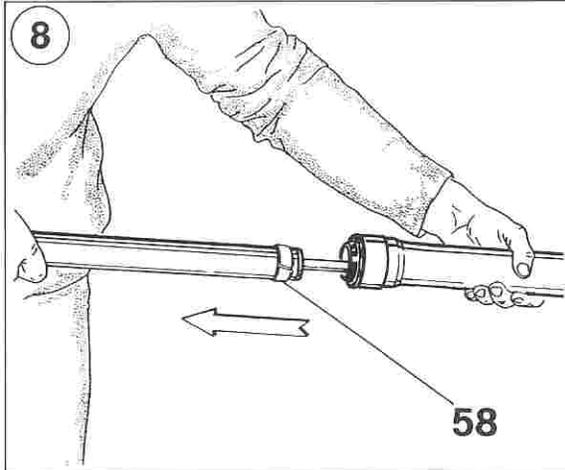

**Fig.148**
- 1) If the oil has to be changed on an assembled fork, loosen the screw with O-Ring (26) and drain all the oil contained into the fork by pushing on the handlebar until the oil comes out. Tighten the O-ring screw.
- 2) Unscrew the upper screw with O-ring (161) by holding the adjustment knob (162) by the hand. Slide this knob and the number plate (147) up off the fork leg top.
- 3) By means of a 22 mm. barrel wrench, unscrew the upper adjustment lock nut (146). Remove it from the adjustment unit.
- 5) Con una chiave esagonale di 36 mm svitare il tappo (17) di chiusura superiore. Rimuovere detto tappo e l'attrezzo sopraccitato dal tubo portante. Fare attenzione a non rovinare l'anello OR (04) nell'estrazione.
- 6) Sfilare dall'interno del tubo portante il tubetto di precarica (28), la molla (18) e lo scodellino guidamolla.
- 7) Portare i portasteli a fondo corsa e immettere olio (SAE 10) fino a raggiungere un volume d'aria di 170 mm (vedi sezione a fig.148).
- 5) By means of a 36 mm. wrench, unscrew the upper plug (17). Remove this plug and this tool from the stanchion tube. Pay attention not to damage the O-ring (04) when taking them out.
- 6) Slide out the pre-load tube (28), the spring (18) and the spring guide cap from inside the support pipe.
- 7) Make the sliders reach their end of stroke and pour oil (SAE 10) until a 170 mm air volume is reached (see section at fig.148).